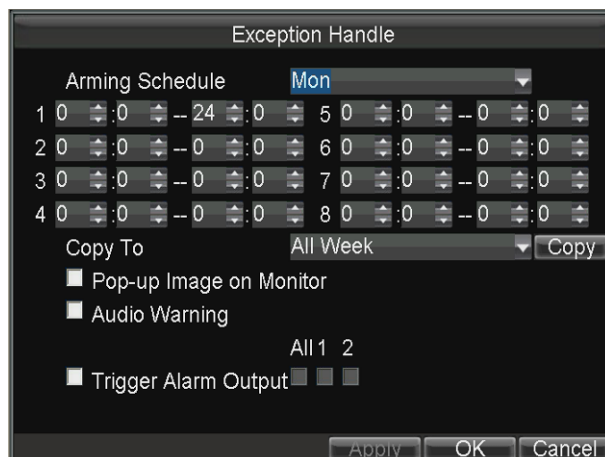

Figure 7.9 Tamper-proof Handle Interface
3. Click the **Handle** button for **Tamper-proof** to set arming schedule and alarm response action(s), as shown in Figure 7.9.